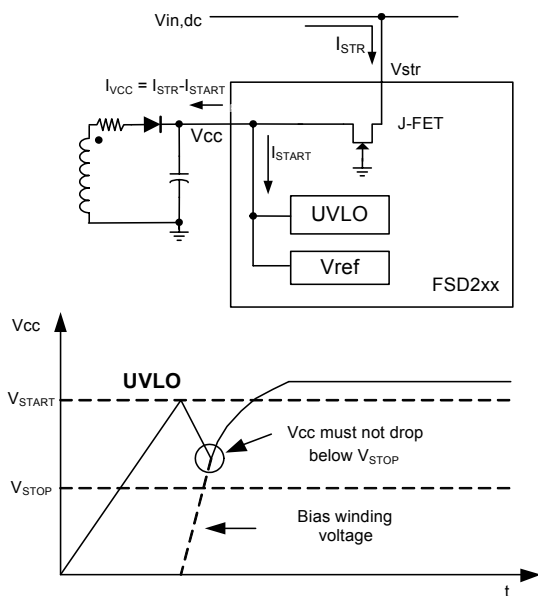

Figure 7. Charging Vcc Capacitor through Vstr
**1. Startup :** At startup, the internal high voltage current source supplies the internal bias and charges the external Vcc capacitor as shown in Figure 7. In the case of the FSD210B, when Vcc reaches 8.7V the device starts switching and the internal high voltage current source is disabled. The device is in normal operation provided that Vcc does not drop below 6.7V. After startup the bias is supplied from the auxiliary transformer winding. In the case of FSD200B, An internal high voltage regulator (HV Reg.) located between Vstr pin and Vcc pin regulates the Vcc to be 7V and supplies operating current, thus FSD200B needs no auxiliary bias winding.